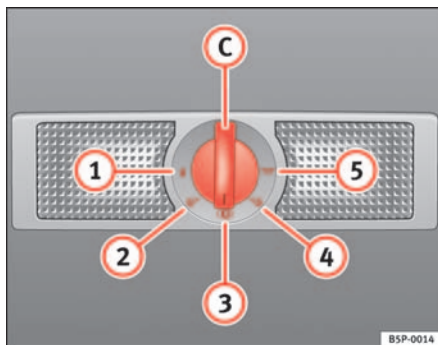

Fig. 84 Detail of the roof:
The switch ⇒ fig. 84 C is used to select the following positions:
In switch position ⇒ fig. 84 ①, the interior and reading lights are switched off.